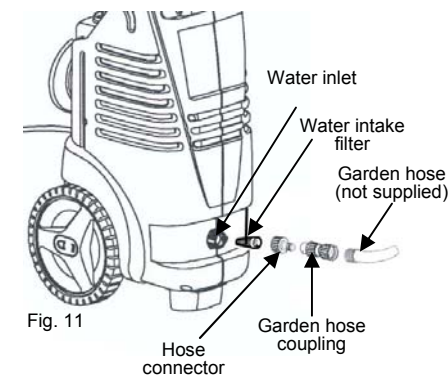

Fig. 11
1. Make sure that the water intake filter is inside the water intake inlet. (Fig. 11)
2. Attach the male adapter (supplied) to the water intake connector on the front side of the unit. (Fig. 11)
3. Attach the female hose coupling to the garden hose. (Fig. 11)
4. Connect the female hose coupling to the male adapter making sure that it is tightly secured in place. (Fig. 11)